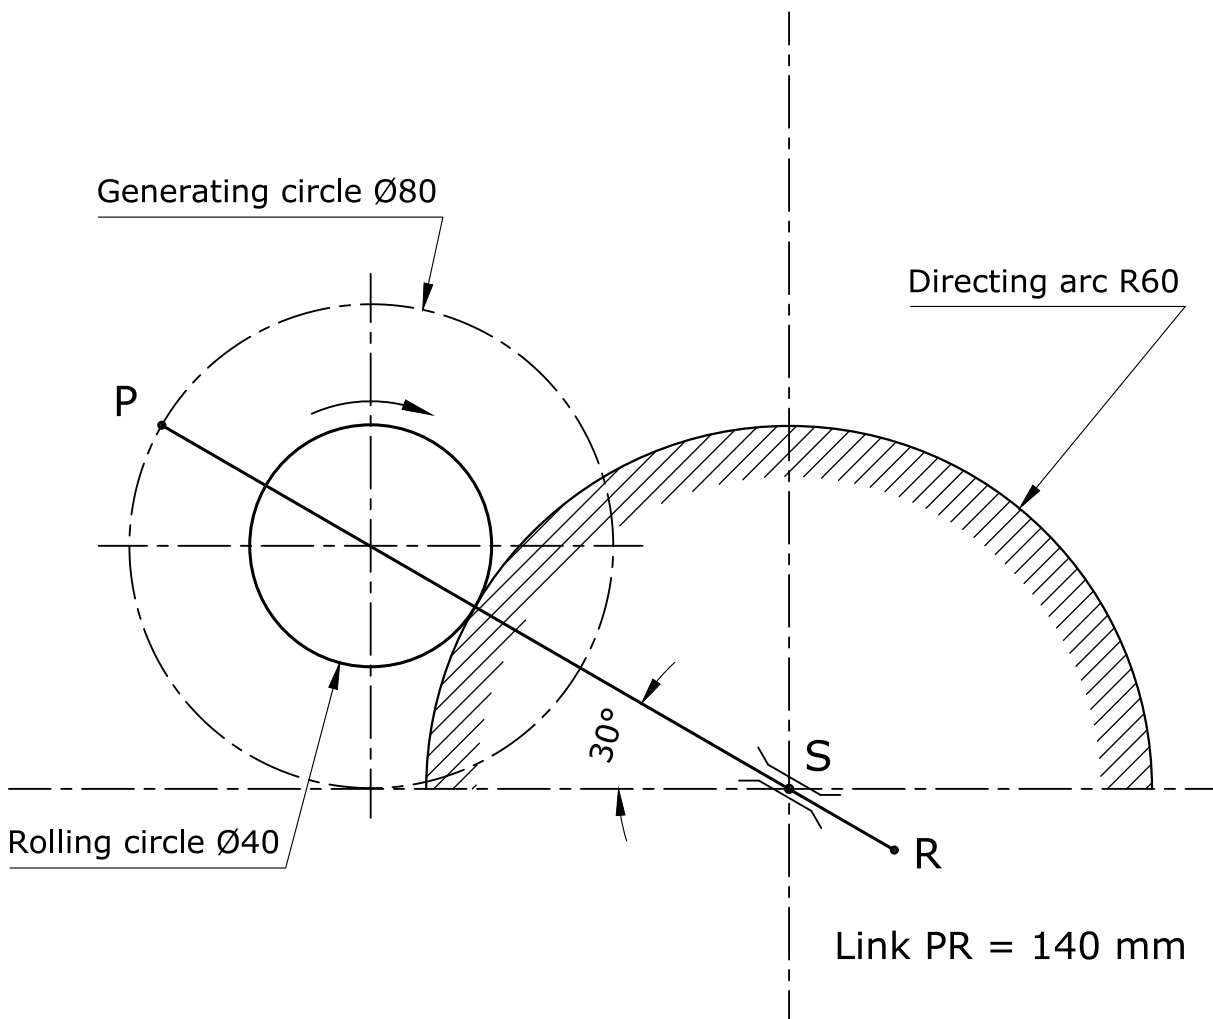

Figure 1b
The logo of an engineering company that manufactures cycloidal robotic actuators is shown in Figure 1a. The logo consists of a combination of a cycloidal curve and loci of attached linkages. Dimensions and full details of one third of the construction of the logo are given in Figure 1b.
- Copy Figure 1b. (2)
- Construct the locus of Point P on the generating circle as the rolling circle rolls for one revolution without slipping on the directing arc. (12)
- Name the curve generated. (1)
- Construct the locus of end R as link PR slides through swivel S while end P rotates to produce the cycloidal curve. (5)